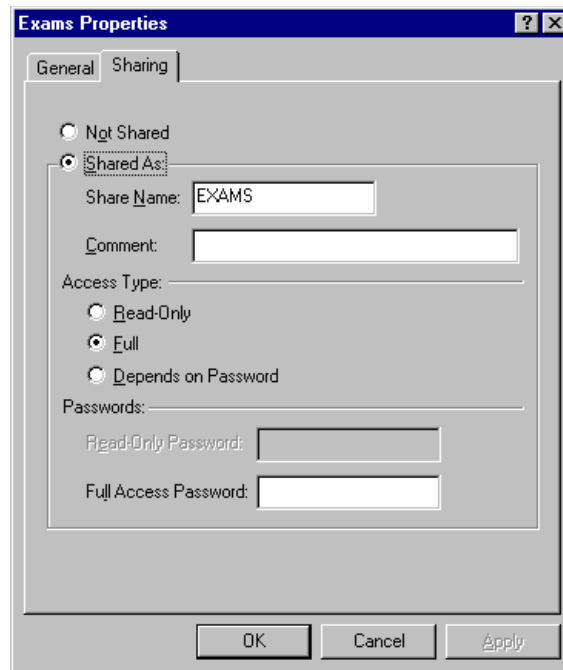

Figure 11-6 Windows 98 Exams Folder Properties
7. The default exams database resides in the C:\EXAMS directory. Double-Click My Computer, Right-Click on the Exams directory and select **Sharing** (Figure 11-6).